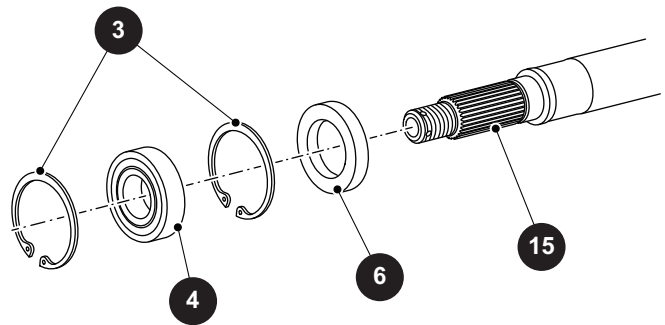
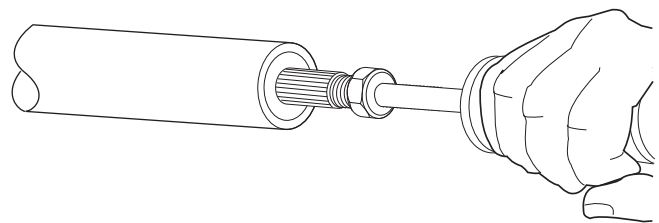

Fig. 3 Half Axle Parts
Fig. 4 Remove Axle Shaft
2. Attach a slide hammer to the axle shaft thread and remove the axle shaft (15), bearing (4) and retaining rings (3) from the axle tube as a complete assembly (Ref Fig. 3) (Ref Fig. 4).